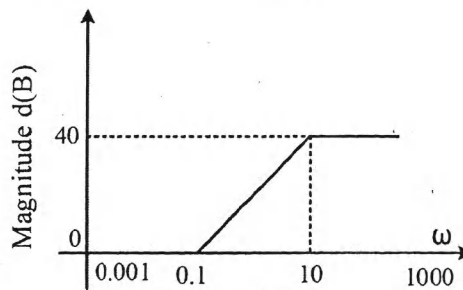

Fig. 6
16. For the asymptotic Bode magnitude plot shown in Fig. 6, the system transfer function will be